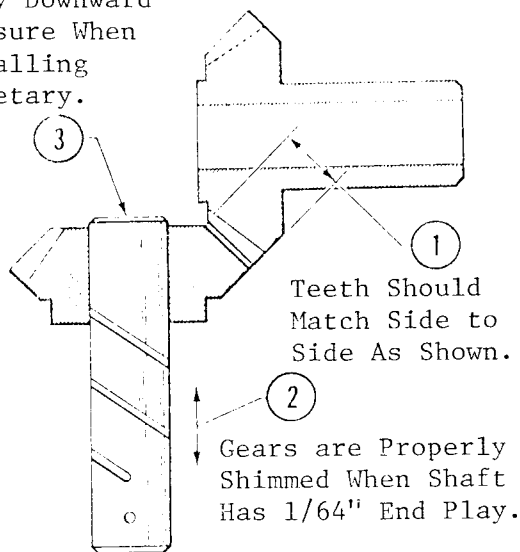

Fig. 3-30
- G. Check for proper gear mesh by moving the planetary shaft in and out. There should be approximately 1/64" of clearance between the teeth of the two gears. The two gears must also mesh correctly (Fig. 3-30).